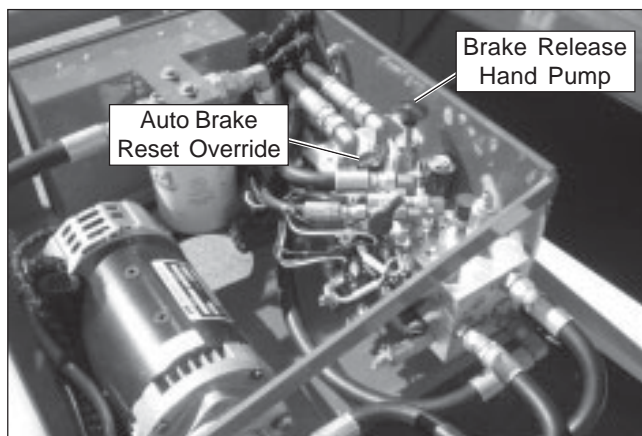

Figure 10.3 – Hydraulic Tray
6. Unlatch and swing out the hydraulic tray on the right side of the chassis. Push and release the brake release hand pump several times to release the brakes. The hand pump is located on the main control valve (refer to Figure 10.3).